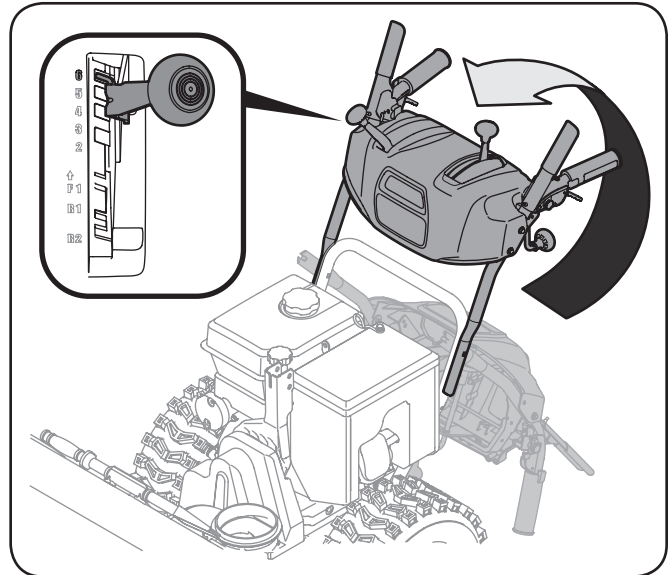

Figure 3-2
3. Remove the rubber bands securing cables to carriage bolts and cut zip ties securing shift rod and flex shaft to lower handle. Carefully pivot the handle upward. See Figure 3-2.